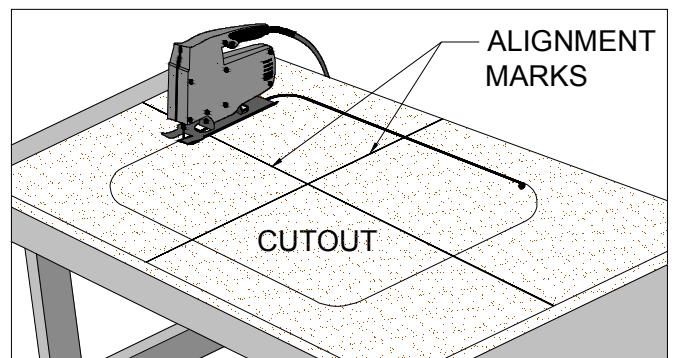

Figure 33D
- Cut along the outline of the cutout. (FIG. 33D)